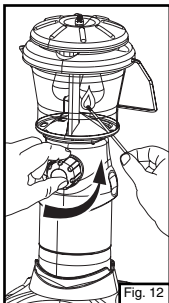

Fig. 12
- Push lighted match through lighting hole, hold near mantle and open fuel valve fully. (Fig. 12)